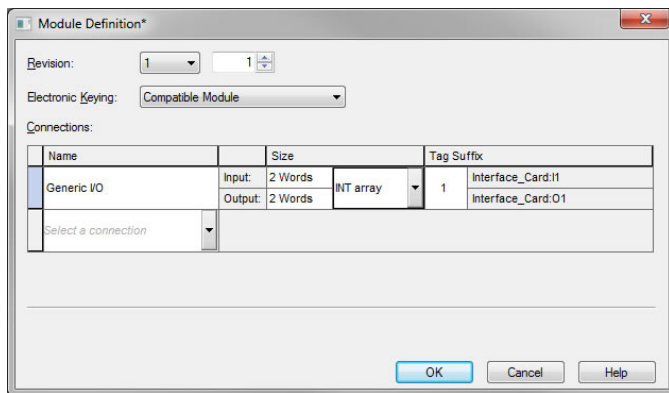

Figure 38: AOP Generic I/O Module Definition
3) Configure the Generic I/O connection. Refer to Figure 38.